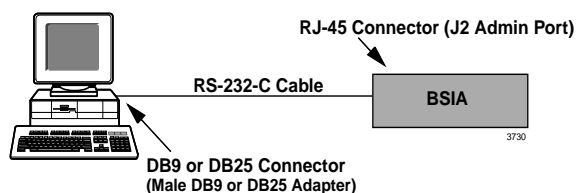

Figure 16-21 PC to BSIA Connection
1. Insert one end of the RS-232-C cable with a DB9 or DB25 adapter into the serial port in the back of the PC (see Figure 16-21).